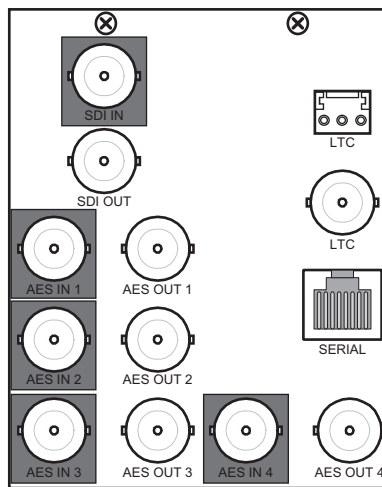

Figure 2.2 Cable Connections for the NWE-3GA
The NWE-3GA is used with the 8320AR-060 rear module in the DFR-8321 series frame. Each rear module occupies four slots and provides one SDI input, one SDI output, four unbalanced AES3id inputs, four AES3id outputs, a balanced LTC connection, an unbalanced LTC connection, and a serial communications port. Refer to **Figure 2.2** and the rear module label for connector locations.
1. Connect the appropriate input AES sources to the **AES 1-4** BNC connectors. Refer to **Figure 2.2** and the rear module label for connector locations.
1. Locate the LTC ports on the 8320AR-060 rear module. Refer to **Figure 2.2** and the rear module label for connector locations.
- the location of the **Serial COM** port on the rear module, refer to **Figure 2.2**.
1. Connect the automation computer to the **Serial COM** port on the 8320AR-060 rear module using the **Serial Interface Cable**. Refer to **Figure 2.2** for the port location.